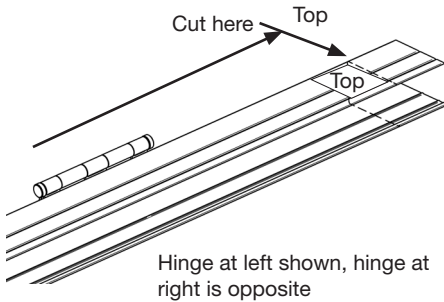

Fig. 3
**Note:** Use masking tape around channel where measuring and cutting will be done. (It reduces scrapes from cutting, and it is easy to mark a line with any type of pen) (**Fig 3**).